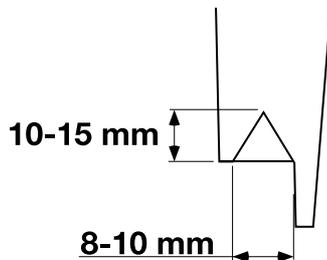

Fig 10.
- d Fit the pre-cut nozzle. ⇒ Fig 10. \(□ B-54\).